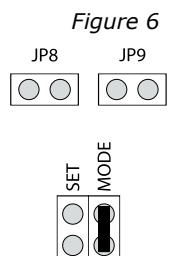

Figure 6
3. Set the jumper on MODE pins. See Figure 6 for correct jumper position.